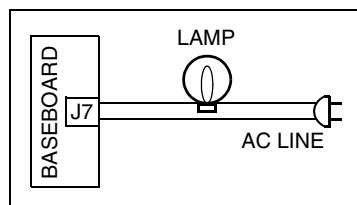

Figure 1-4. Lamp Connection
8. The lamp connection is shown in Figure 1-4.